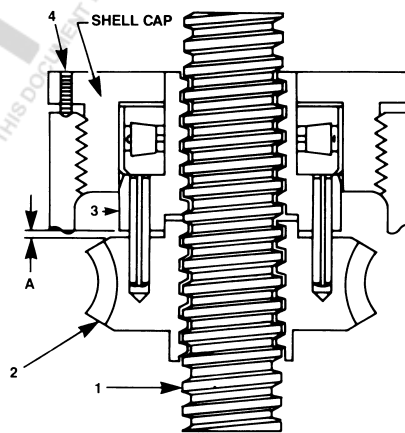

Figure 2-1. Anti-Backlash Nut Adjustment
11. Screw bottom pipe (4) into shell (3) (upright models) or into shell cap (2) (inverted models).
12. Brush lifting screw (5) with a light film of grease and install in actuator. On inverted models, install guide bushing (16) and then install lifting screw (5).
13. If actuator is keyed, install key in shell cap (2) and bolt in place.
As shown in Figure 2-1, the worm gear (2) and anti-backlash nut (3) are pinned together with guide pins. The threads in the anti-backlash nut work in opposition to the threads in the worm gear as they